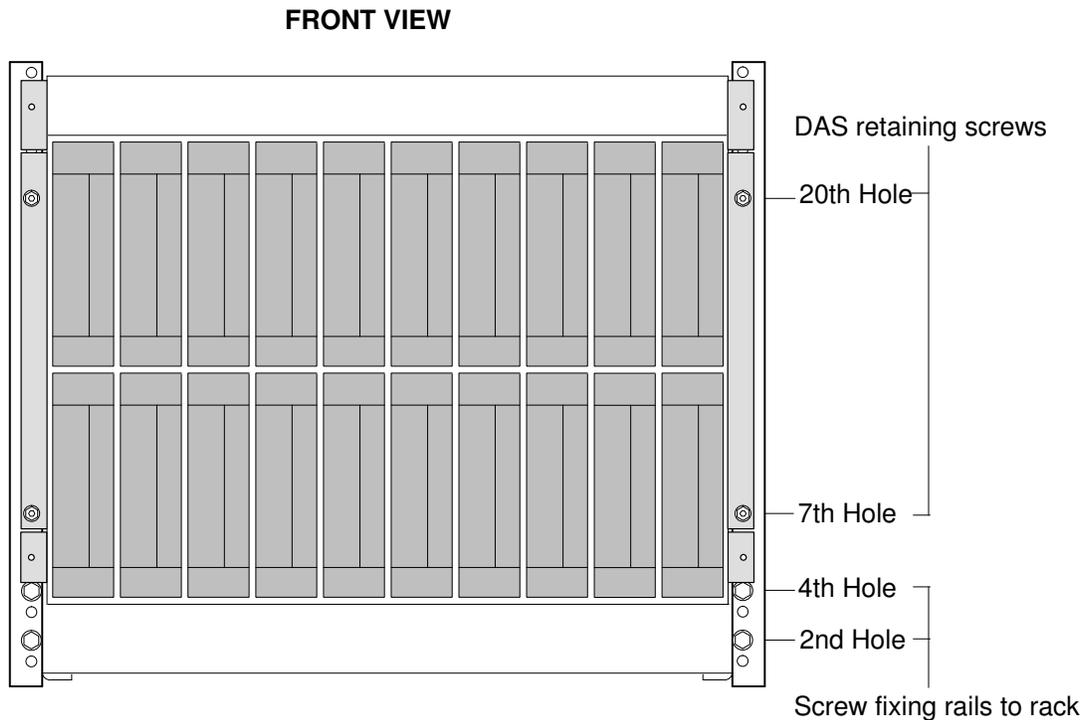

Figure 88. Front view of the DAS 2900
1. At the **front** of the rack, secure the drawer with two (2) M5 self-locking screws on each side, see figure 88.